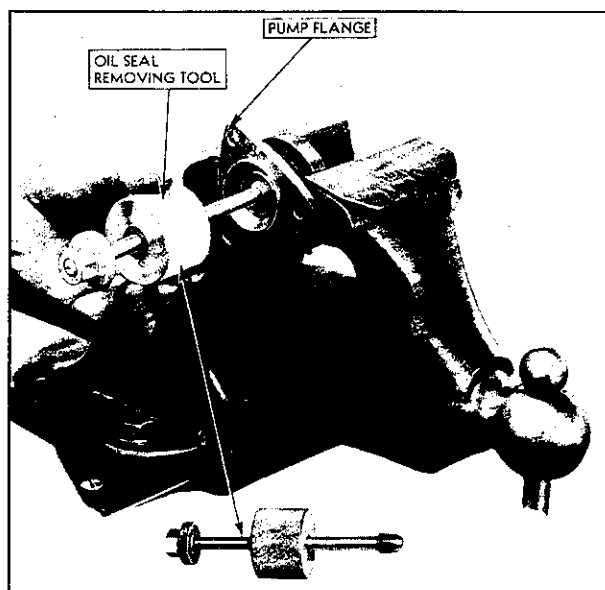

Fig. 38—Removing Oil Seals from Fuel Pump Flange.
5. Using Tool J-1508-1, as shown in Fig. 38, screw threaded end of tool shaft into inner oil seal of pump flange (seal closest to bolting flange), and tap head on shaft with sliding weight and remove seal. Repeat this operation to remove the outer seal.